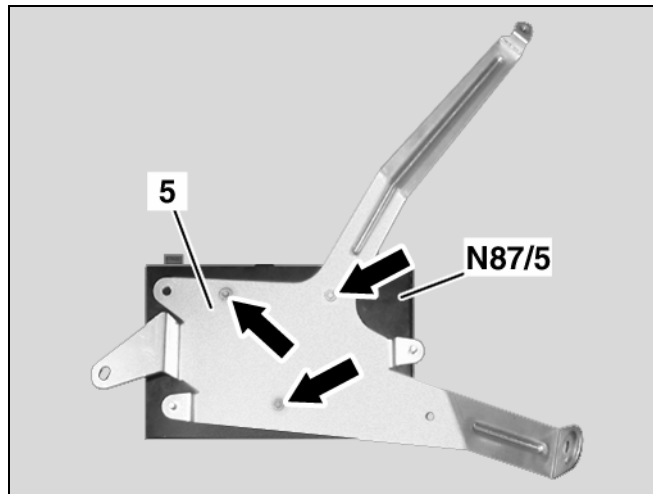

Figure 6
- Mount the SDAR control module (N87/5, Figure 6) to the bracket (5, Figure 6) secure with three M5 hex nuts (arrows) included with installation kit. Be sure to orient the SDAR control module with respect to the bracket as seen in Figure 6.